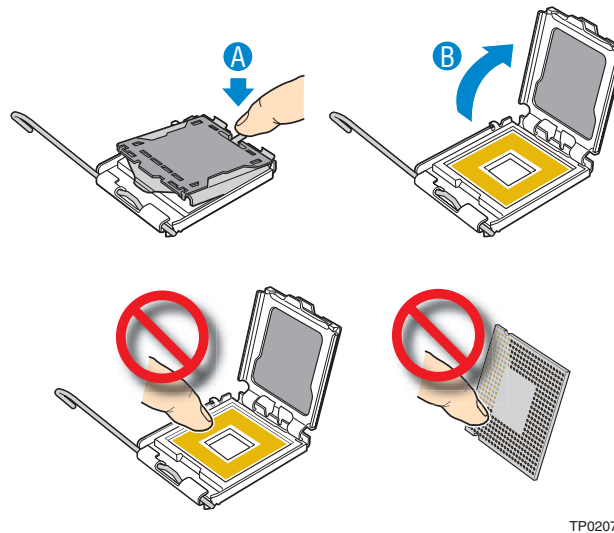

Figure 13. Installing the Processor
6. Raise the CPU load plate (see Figure 13).